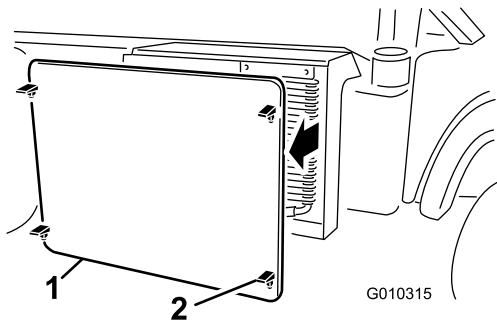

Figure 52
5. Unlatch and remove the radiator screen from the front of the radiator (**Figure 52**).